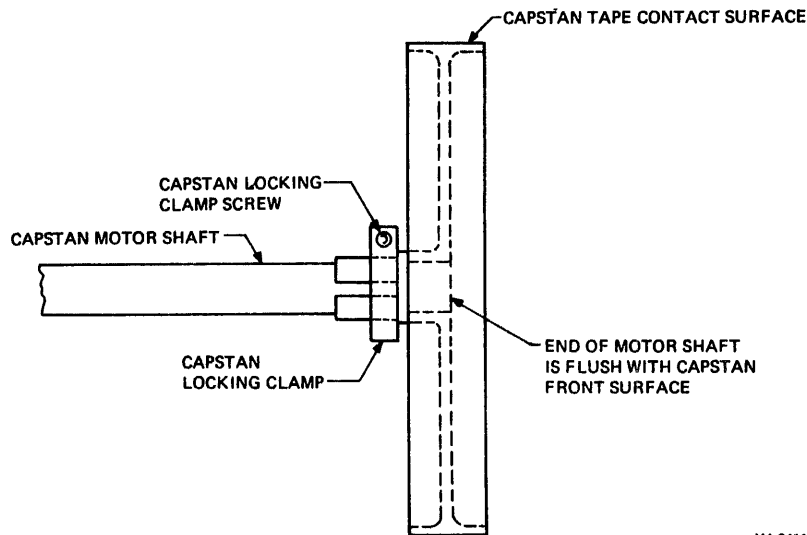

Figure 7-13 Capstan Positioning on Capstan Motor Shaft
1. Proceed as follows to position the capstan on the motor shaft (Figure 7-13).